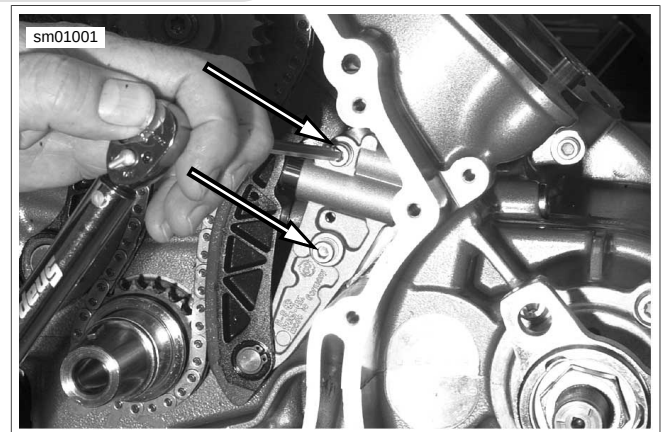

Figure 3-33. Primary Chain Hydraulic Tensioner
8. See Figure 3-33. Install primary chain hydraulic tensioner fastener. Tighten to 9.7 Nm (86 in-lbs).